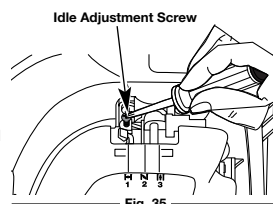

Fig. 35
The idle speed of the engine is adjustable. An idle adjustment screw is between the air filter cover and the engine starter housing (Fig. 35).
- Release the throttle trigger and let the engine idle. If the engine stops, insert a small phillips in between the Air Filter Cover and the Engine Cover (Fig. 35). Turn the idle speed screw in, clockwise, 1/8 of a turn at a time (as needed) until the engine idles smoothly.